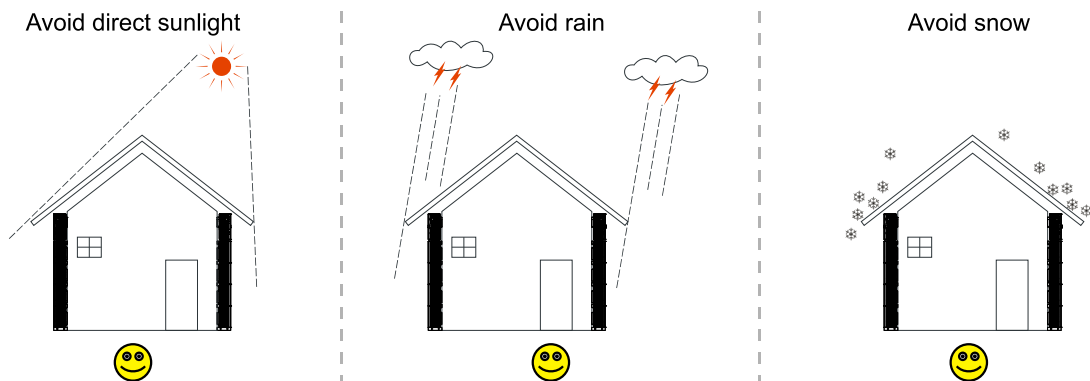

Figure3-2 Recommended installation environment
2. It is suggested to install the ATG-ST-H01 product under shade as shown in Figure3-2 to max the ATG-ST-H01 product lifespan and efficiency.